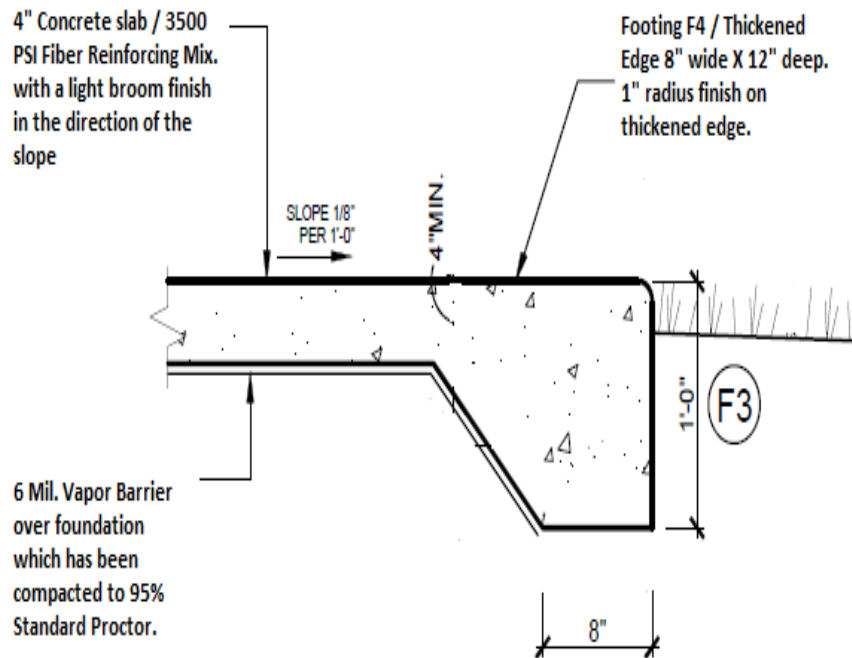

Figure 5: Footing F4
- c. The concrete footings for the corner posts of the dugout shall be 28" X 28" X 22" deep. See F1 within figure 2 The footings for the center posts of the dugout shall be 40" X 40" X 22" deep. See F2 within figure 3. A chain link fencing corner post footing shall be placed within the F4 footing 5' from the dugout corner post closest to the fields' home plate. This footing shall adjoin footing F3 and be 17" X 12" X 12". See F4 within figure 5 & 7.